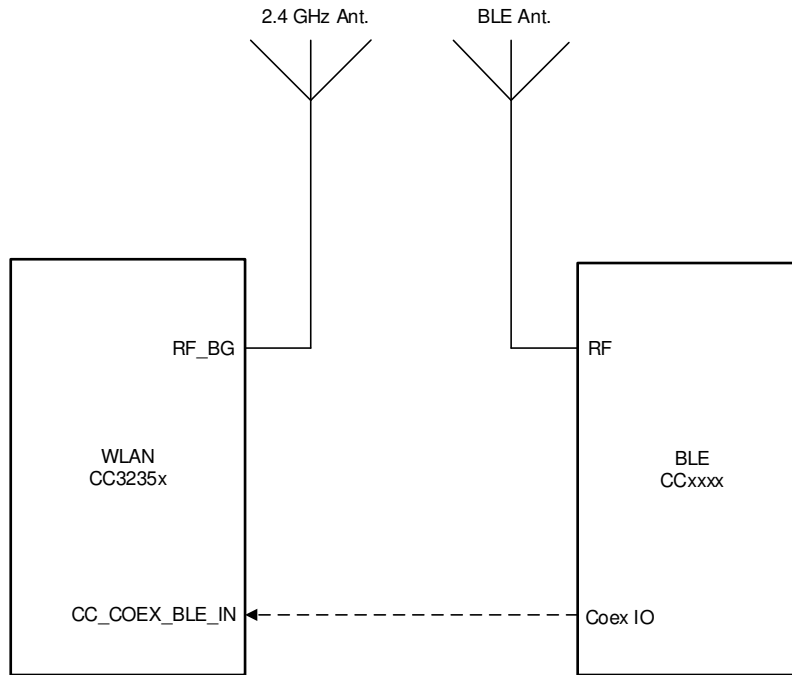

Figure 10-3. Dual-Antenna Coexistence Mode Block Diagram
- 2.4 GHz Wi-Fi Band (see Figure 10-3)
Figure 10-3 shows the dual antenna implementation of a complete Bluetooth® low energy and WLAN coexistence network with the WLAN operating on either a 2.4- or a 5 GHz band. Note in this implementation no Coex switch is required and only a single GPIO from the BLE device to the CC3235x device is required.